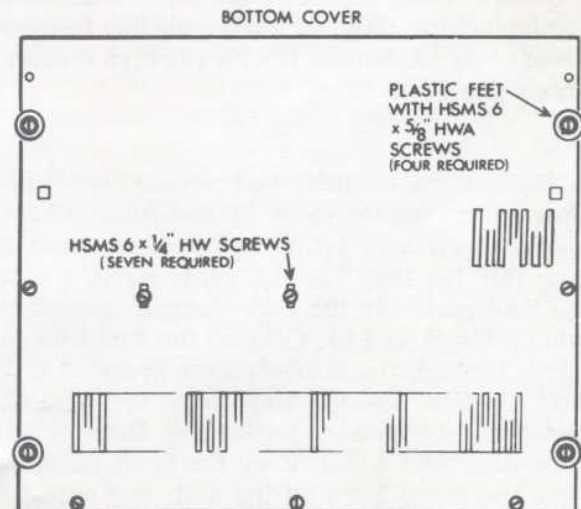

FIGURE 11
5.  Assemble the bottom cover as shown in (Figure 11).